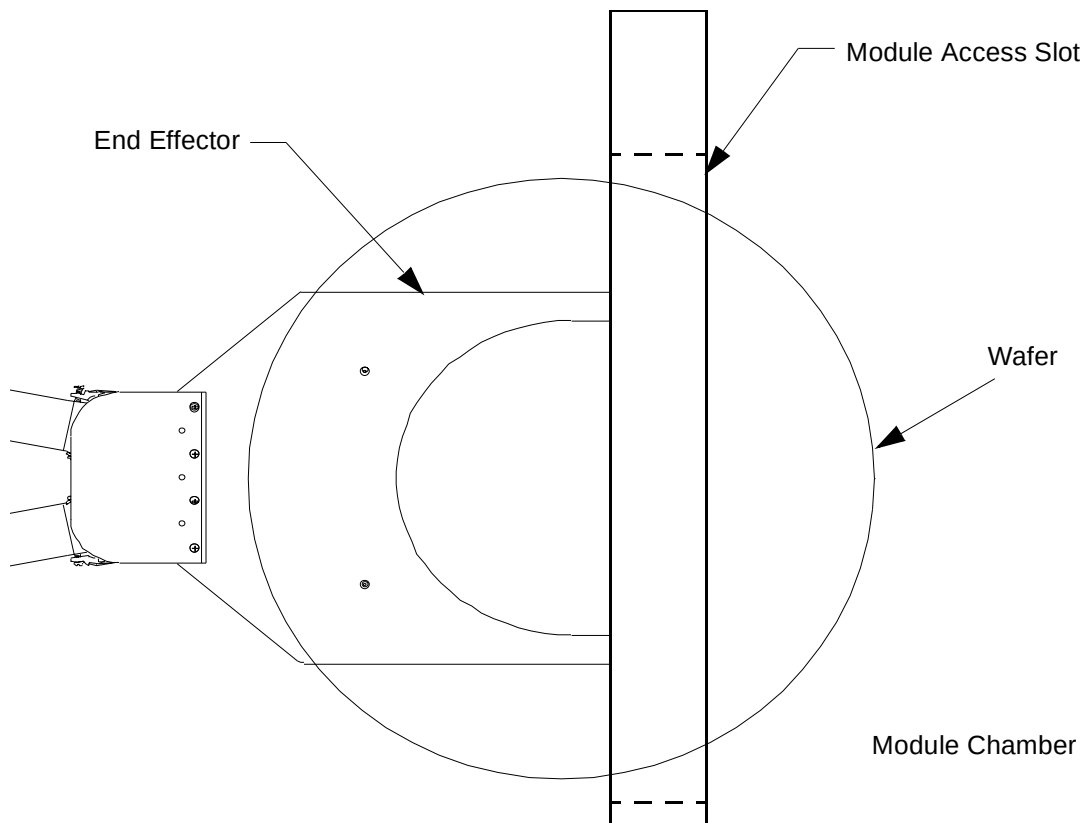

Figure 7-3: Positioning the End Effector in the Module
3. Jog the (radial) R axis outward until the end effector is located inside the module access slot, as shown in **Figure 7-3**.